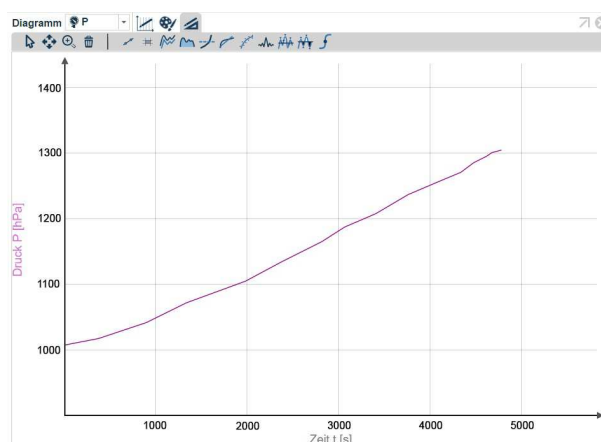

Fig. 6: Measurement result in the 70°C bath
- Experiment 4 (pH of the nutrient medium lowered):** The curve rises drastically until the rubber stopper is pushed out of the Erlenmeyer flask after approximately 25 minutes at a pressure of approximately 1250 hPa (Fig. 6).